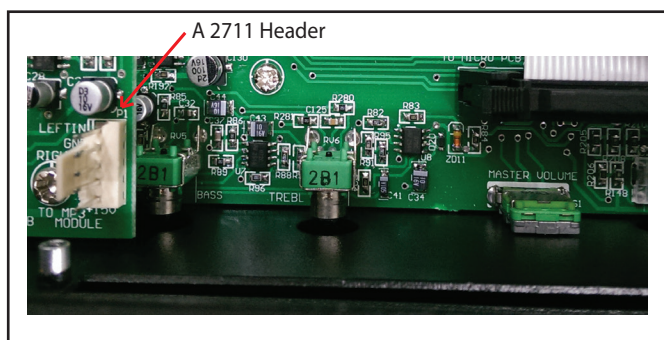

Fig 2.10A
4. Locate the header inside the front of the amplifier. See Fig 2.10A